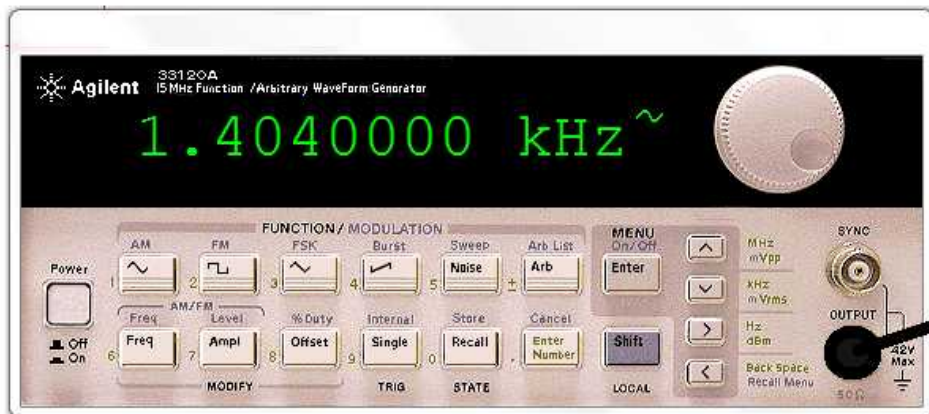

Figure 3-19: Series resonant band-pass filter, real world circuit connection
1. Connect a 100 Ω resistor, 47 mH inductor and (no polarized) 220nF capacitor in series with a signal generator as shown in the circuit figure 3-19.